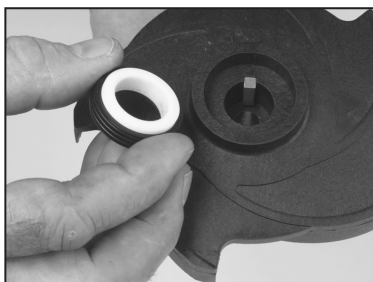

Fig. 8
4. Install key (Ref. 14) into the bore of the impeller (Ref. 12). Lubricate the seal cavity of the impeller with WD-40, LPS or equivalent, and carefully press the seal's mating ceramic ring in place, seating it squarely on the bottom of the cavity. The glossy, finished side of the ceramic seal must be facing you. **IMPORTANT:** Make sure both seal surfaces are clean and lubricated. Never run seal surfaces dry. (See Fig. 8.)